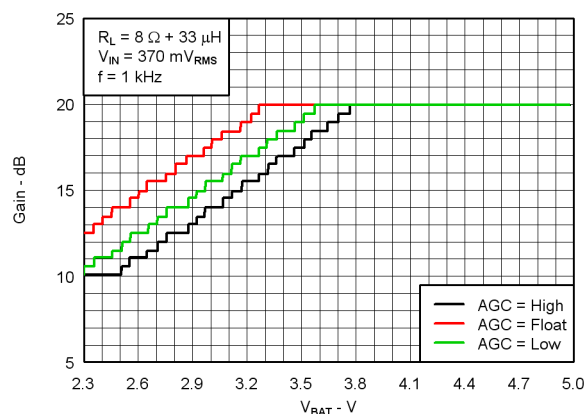

图 22. Gain vs Battery voltage
图 22 shows the plot of gain as a function of battery supply voltage. The default slope is 7.5 dB/V. When battery voltage drops below inflection point by 1 V, AGC reduces the gain by 7.5 dB. The TPA2025D1 can only operate at one slope.
- Phase 7 Battery voltage remains constant. AGC continues to increase gain until it reaches steady state gain value defined in 图 22.